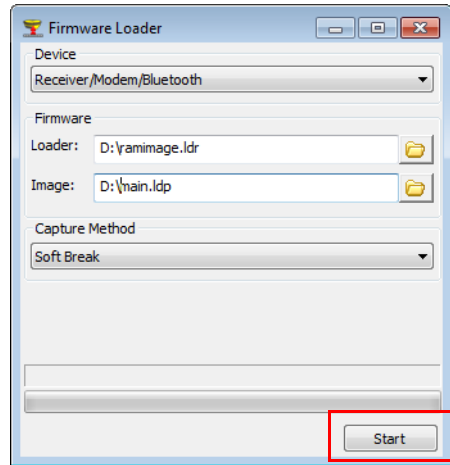

Figure 17: Upload Firmware Window
3. Click the **Firmware**  icon in the TRU main window. The **Upload Firmware** window (Figure 17) displays. This window enables you to upload firmware files to the connected receiver.
6. Browse for and select the receiver board's RAM and Flash files (Figure 17).